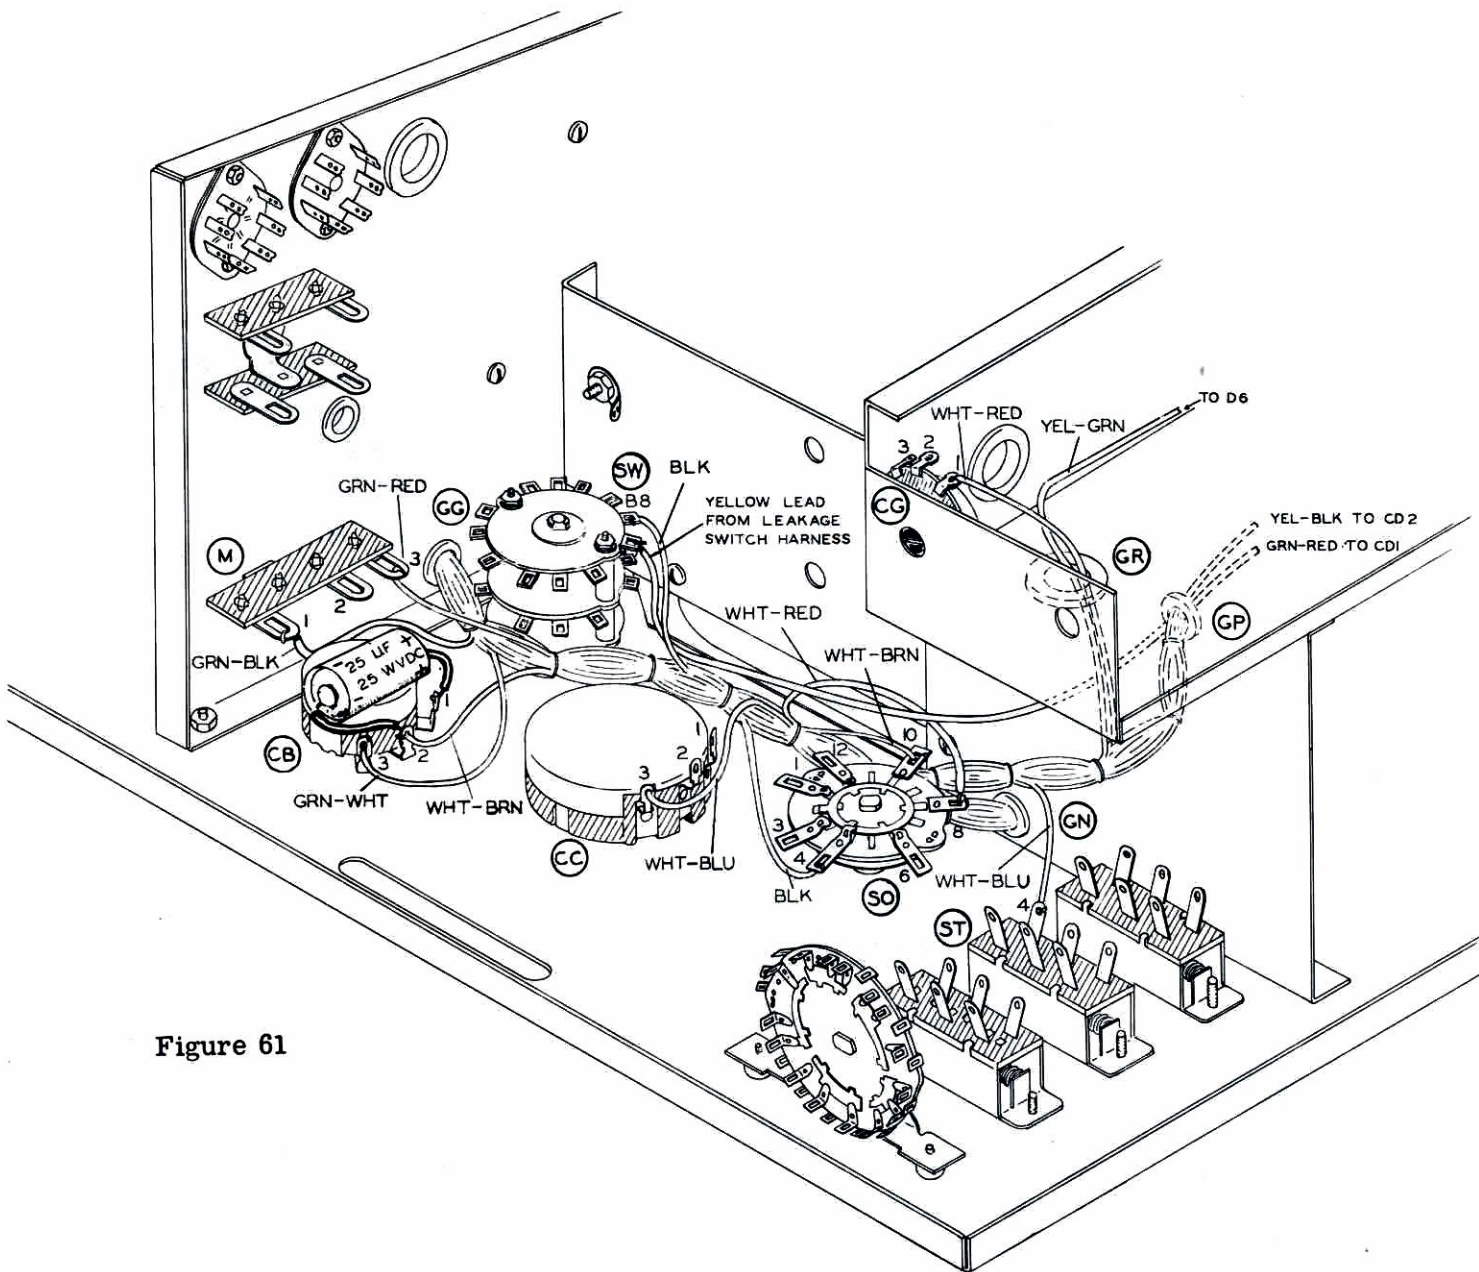

Figure 61
() See Figure 61. Connect the yellow lead from the LEAKAGE switch harness to SWB7 (S-1).
- () Connect the yellow-green lead to D6 (NS). See Figures 61 and 62.
- () Connect the green-red lead to CD1 (NS).
- () Connect a 25 μ fd, 25 V capacitor from CB1 (S-2) to CB2 (S-2), (negative lead to CB2). See Figure 61. Use sleeving.